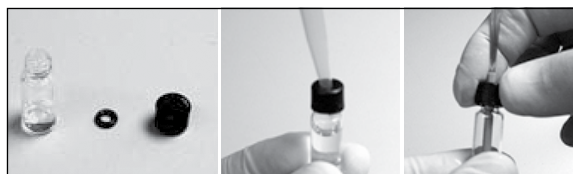
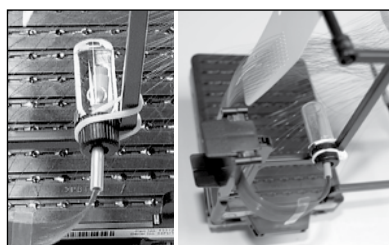

FIG. 1
FIG. 2a
- B. Assemble bottle with o-ring and screw cap; fill bottle with ddH₂O then carefully insert capillary ends into bottle (FIG 1). **NOTE:** Make sure screw cap is tight. For 3730 arrays, make sure the bottle is firmly attached to the frame; otherwise the bottle can swing freely and damage capillaries (FIG 2a).
- C. Place array in its original shipping container (FIG 2a/b) and note the serial number, date removed, and number of runs on the array. In many cases the box will have a different serial number than the array, so make sure you read the number from the array itself.